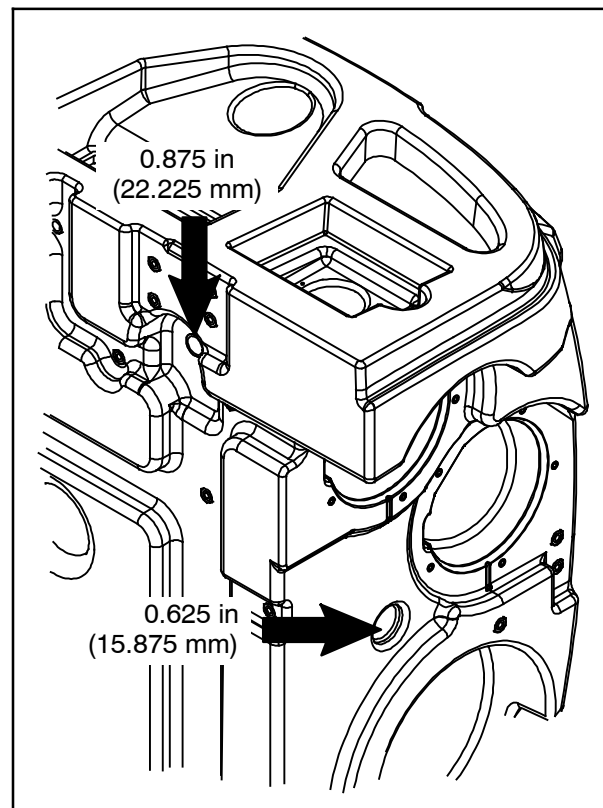

FIG. 6
50. Drill a 0.875 in (22.225 mm) hole and 0.625 in (15.875 mm) hole into the recovery tank. (Fig. 6)